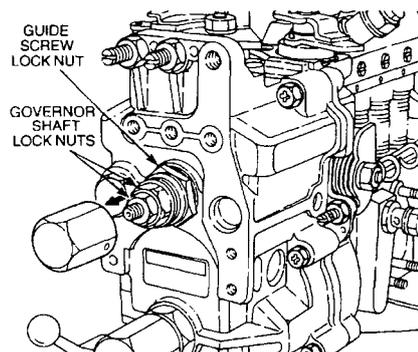

Figure 82 Governor Shaft Cap Nut and Locknuts
- c. Remove the cap nut and gasket from the governor shaft (Figure 82).